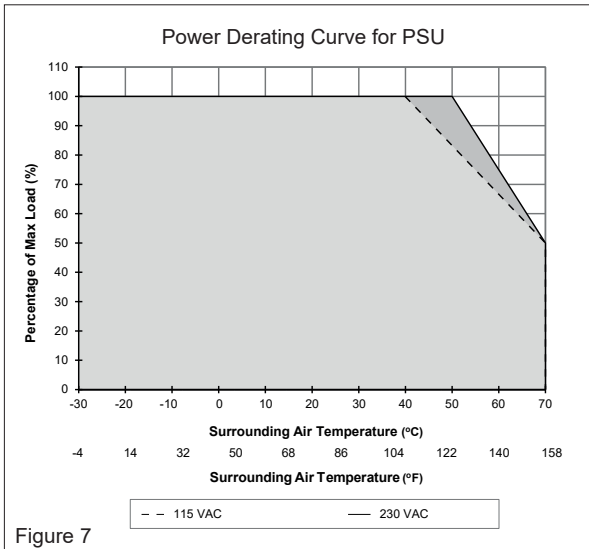

Figure 7
5.4. Thermal behavior (Fig. 7)
If the output capacity is beyond what is recommended in Fig. 7, the device will run into thermal protection by switching off i.e. the output voltage will go into latch-off mode until the component temperature cools down and the AC power is recycled.